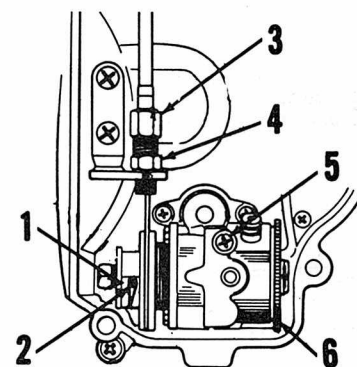

Fig. Y12-2—Throttle should be held open during bleeding to speed the operation.
Oil pump adjustment is checked by removing carburetor cover and observing that arrow on the pump adjustment pulley (1—Fig. Y12-2) is aligned with guide pin (2) when throttle is in idle position. Pump control cable guides may be adjusted to correct if alignment is off.